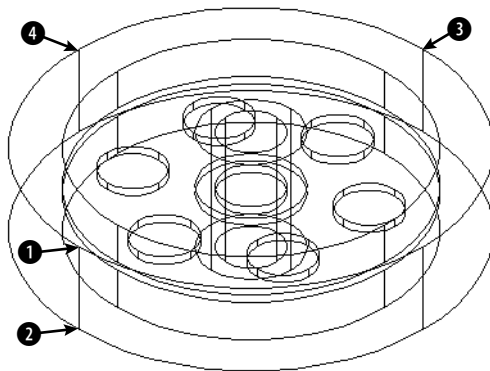

Figure 24-22: The 3D model for slicing.
1. If you have `ab24-03.dwg` open from the previous exercise, use it. Do a `regen` to remove the hidden view. If you don't have it open, open it from your `AutoCAD Bible` folder or from the `Results` folder of the CD-ROM. Make sure that `OSNAP` is on. Set running object snaps for endpoint, midpoint, center, and quadrant. Make sure you have both the `Solids` and the `Solids Editing` toolbars open. The drawing is shown in Figure 24-22.
<3points>: *Pick the quadrant at 1 in Figure 24-22.*